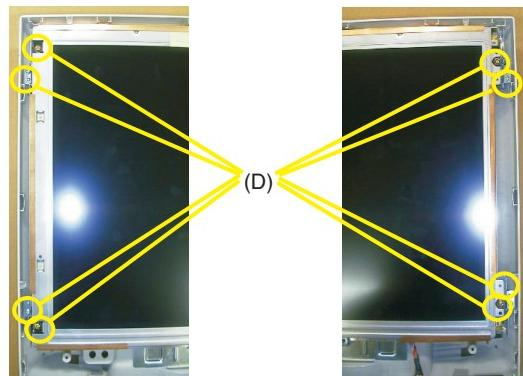

Fig. 6
Step 4 : Remove eight screws (D). See Fig. 6